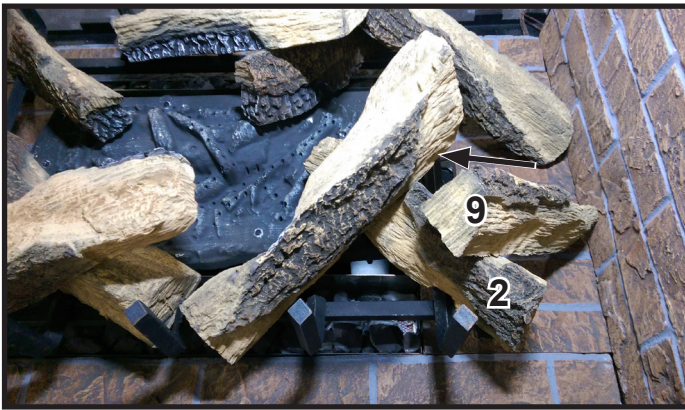

Figure 18. Log #9 from rear.
**LOG NUMBER 9 (SRV2272-708):** Note that Logs #9 and #10 are identical to each other. Place Log #9 on the groove on Log #2 with the end resting against the side and bottom brick panels as shown in Figure 18.